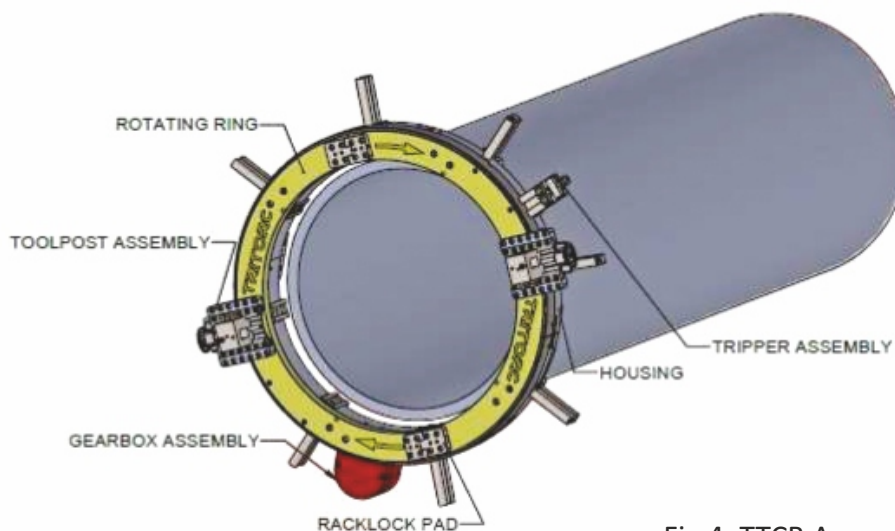

Fig 4. TTCB Assembly
1. Install the 2 halves of the machine around the pipe and tighten the housing swing bolts and the gear clamp bolts on the cutting head (see Figure 4 above).